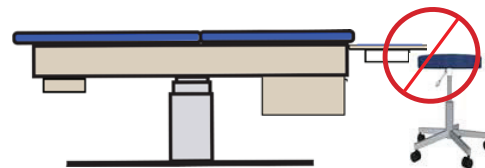

Figure 7. Ensure all equipment is clear of exam table
⚠ CAUTION: Prior to use of exam table, all equipment must be clear from exam table before any functions of table are set in motion. Failure to adhere to could result in personal injury, exam table failure, or damage to equipment under the table (Figure 7).
2. Lift the bar up for a pelvic tilt position of 7°. Fold the bar down for a pelvic tilt position of 0°. (Figure 7)